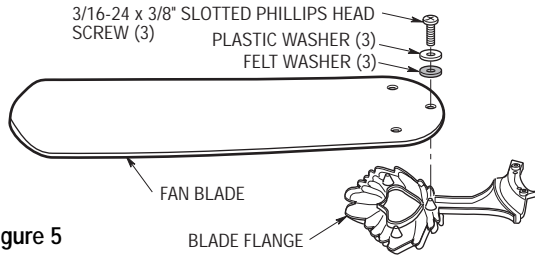

Figure 5
7. Mount blade flanges to fan blades using three 3/16-24 x 5/16" slotted Phillips head screws, three felt washers and three plastic washers (Figure 5).